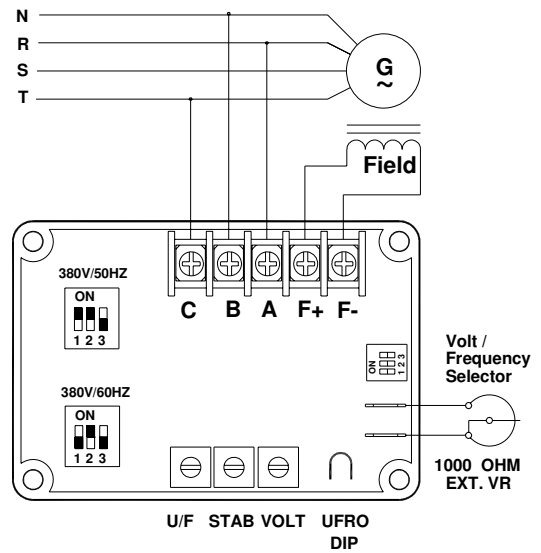

Figure 4
2. When the rated phase voltage of the generator is 380V, 440V, the input terminals B, C and sensing terminals A, C must separate connect the wiring (as show as Figure 4 or figure 5). The voltage between B and C must not be over 300 VAC.